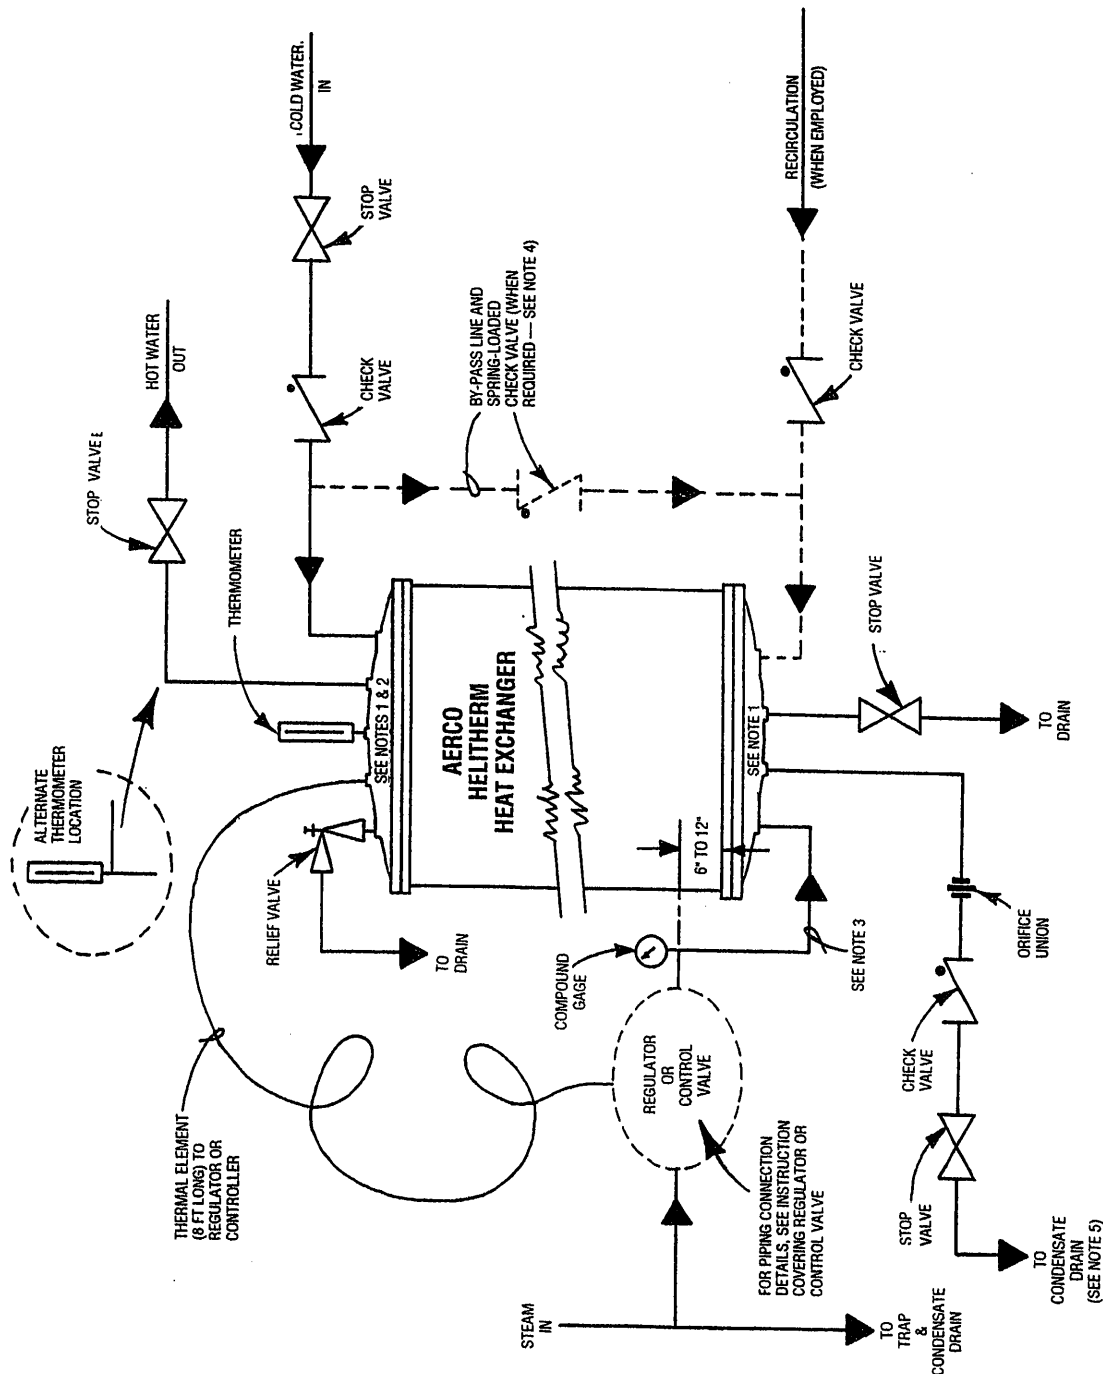

Figure HE-101-3 -- Piping connections for MODEL SW1A or SW1B
Accessories normally required for an AERCO HELITHERM Steam to Water Heater are (see Figure HE-101-3):
All other stop (shutoff) valves or check valves shown in Figure HE-101-3 are furnished by others.
5. Make the piping connections in accordance with Figure HE-101-3 and per the following:
- d. Include all of the stop and check valves shown in Figure HE-101-3. The condensate check valve is mandatory.
- g. Include the external by-pass line if required (see Note 4 in Figure HE-101-3).
- h. Include an orifice union (unless otherwise approved by AERCO) in the condensate drain line. See Note 5 in Figure HE-101-3.
6. Install the required relief valve in the upper Heater head and pipe it directly to a convenient floor drain. Install the thermometer in the upper Heater head or in the hot water outlet piping as shown in Figure HE-101-3.
- OP1. With all the connecting piping cleaned out, all connections made per Figure HE-101-3, and the thermal element in place in the upper Heater head, open the stop valve in the cold water inlet line and hold the relief valve in the upper Heater head open to allow air to come out (otherwise an air pressure pocket will be built up and the Heater will not fill). When water flows out of the relief valve, the Heater is full.
- CM7. Recirculation line is piped into the cold water line instead of into the Heater lower head. Change the connection to that indicated in Figure HE-101-3.